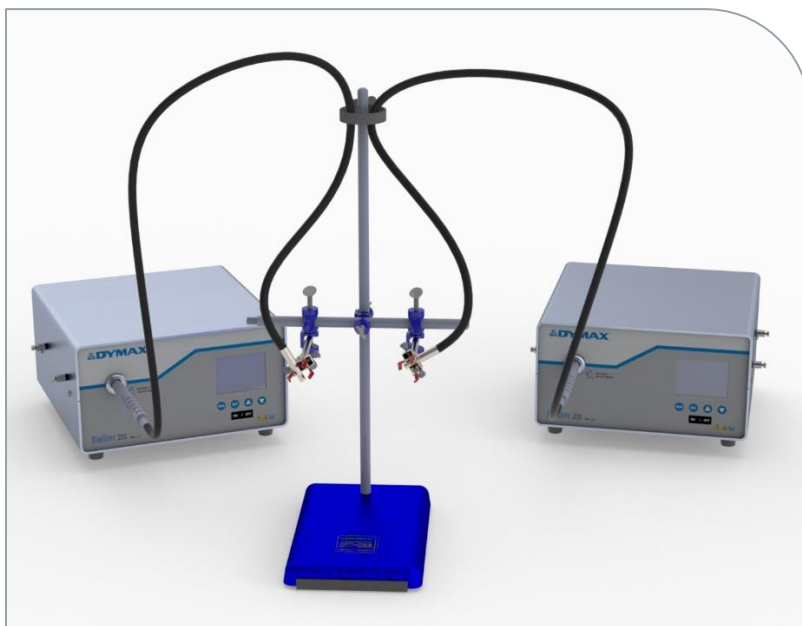

Figure 11. Assembled Stand Used with Two Spot Lamps
8. If necessary, secure the Lightguides to the Rod using a Velcro Strap (E) (Figure 11).